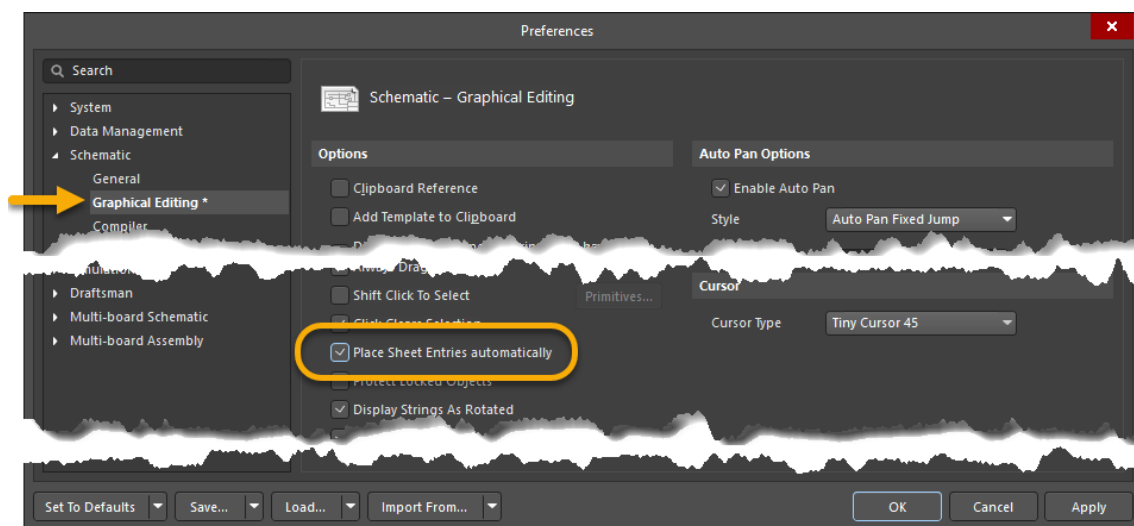

Figure 20. Option to Place Entries
53. Confirm that the option to **Place Sheet Entries automatically** is enabled, as shown in Figure 20. This will automatically create the sheet entry after the Harness connection is created on the Top Level sheet.